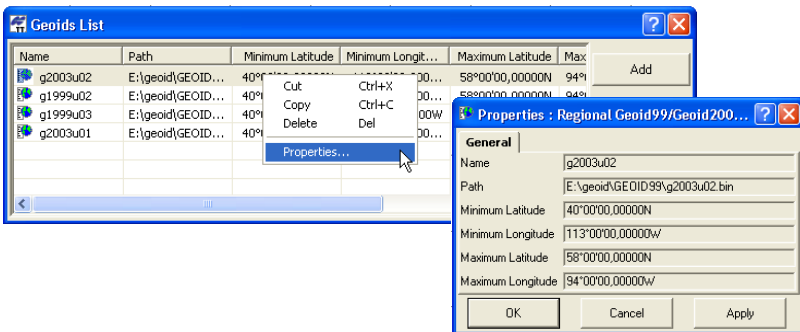

Figure 2-28. Geoids List and Properties Dialog Box
- Right-click on the **Geoids List** dialog box to display a pop-up menu, then click **Properties** to display the **Properties** dialog box (Figure 2-28).